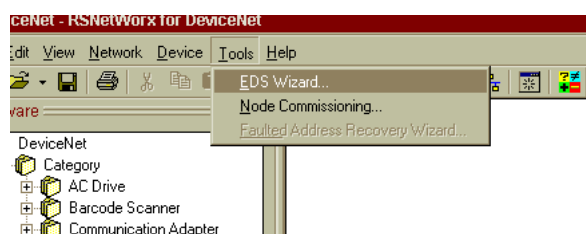

FIG. 110: SELECTING EDS WIZARD
- Step 3. Click on the Tools pull down menu. (See Fig. 110)